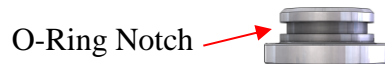

Figure 33: Center Bushing O-Ring Notch
7. Carefully place the center bushing o-ring onto the center bushing. The o-ring should reside in a notch on the center bushing. See Figure 33.